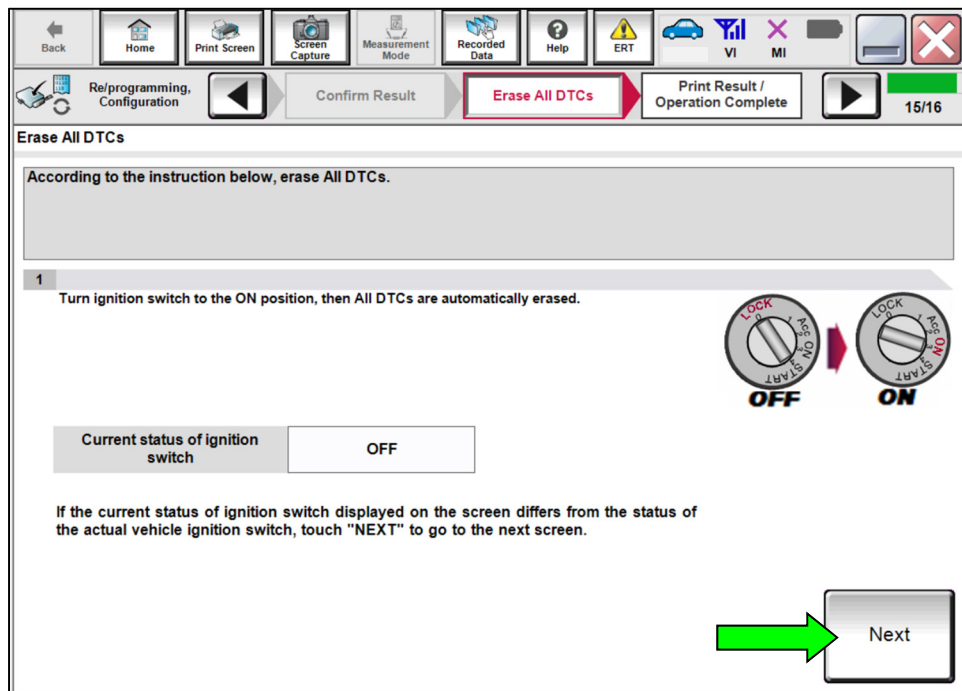

Figure 18
26. Turn the vehicle ON (not Ready mode) by pressing the power switch two (2) times WITHOUT depressing the brake pedal (Figure 18).